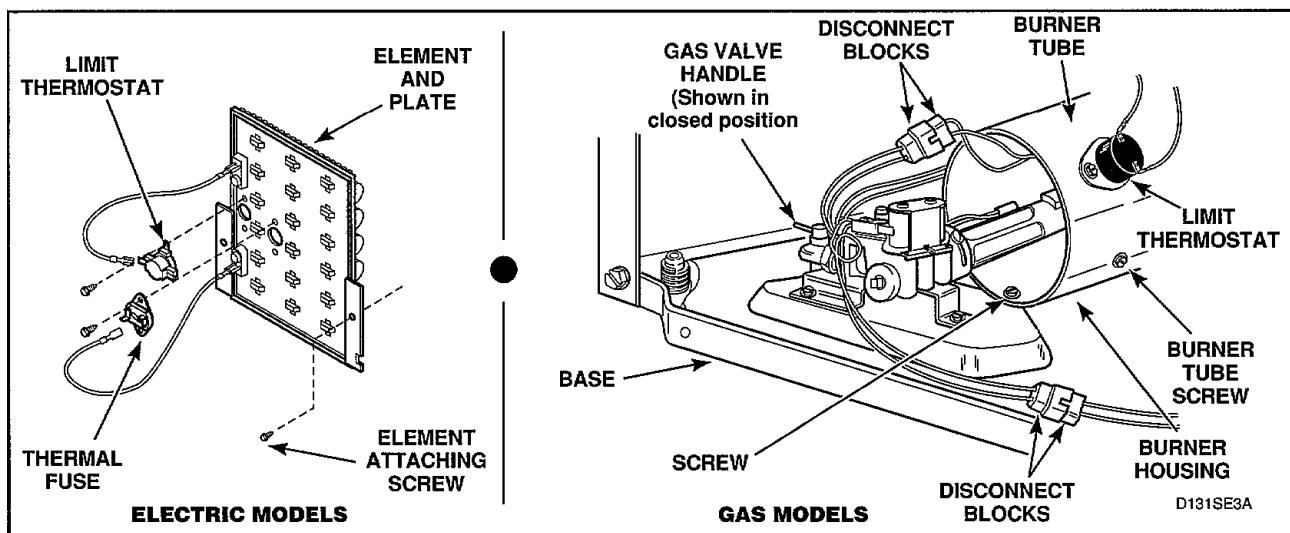

Figure 29
- (2) Gently lower the access panel to disengage guide lugs from bottom edge of front panel.
- (3) Close gas shut-off valve, disconnect igniter wires at disconnect blocks, sensor wires from flame sensor terminals, and wires from gas valve coils at the quick disconnect blocks, *Figure 29*.
- Disconnect igniter wires at disconnect blocks, sensor wires from flame sensor terminals, and wires from gas valve coils at quick disconnect blocks, *Figure 29*.
- Remove screw from right side of burner housing holding burner tube in place, *Figure 29*.
- Remove screw holding front of burner housing to dryer base and remove housing out through front of dryer, *Figure 29*.
- Disconnect wires and remove screws holding limit thermostat to burner housing or element plate, *Figure 29*.
- Remove two screws holding element and plate to heater box and pull element down and away from heater box, *Figure 29*.
- Disconnect wires from element and plate, *Figure 29*.
- Remove screws holding thermostat and thermal fuse to element plate, *Figure 29*.